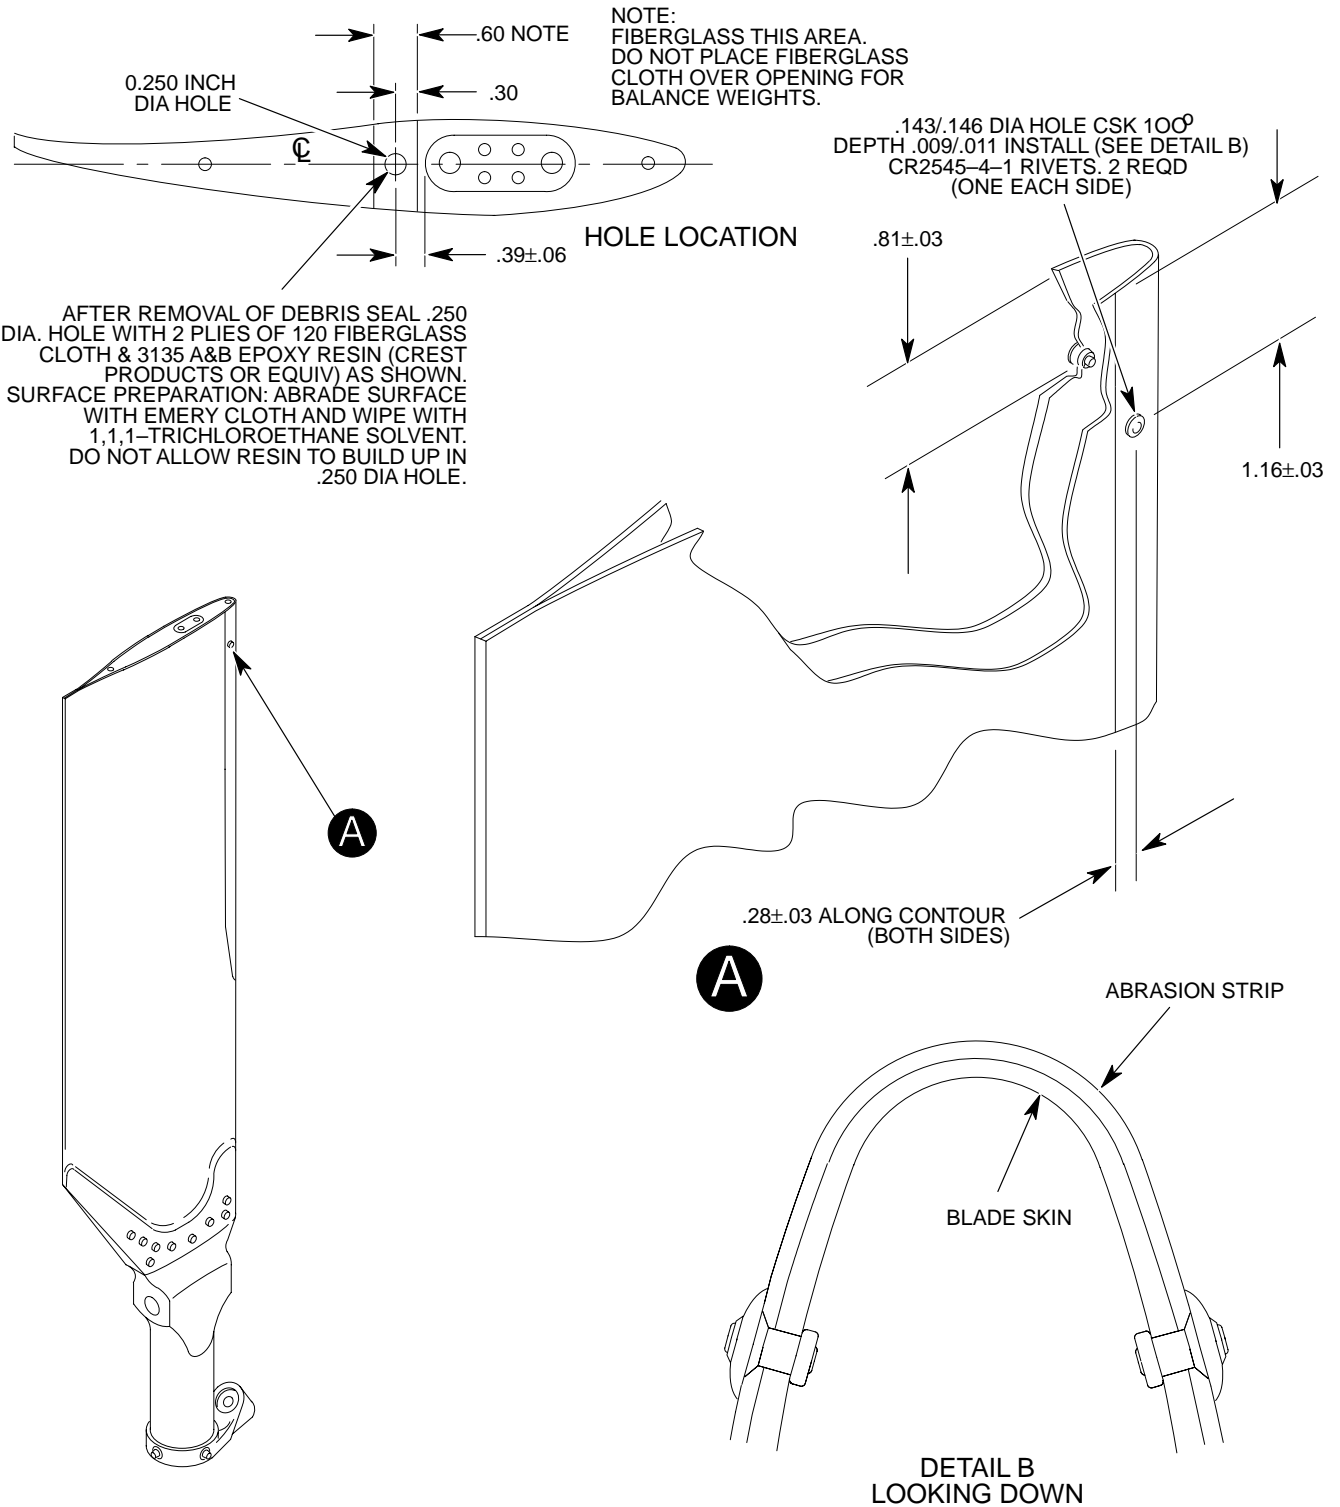

Figure 1. Addition of Rivets to Tail Rotor Abrasion Strip, FOD Removal from Blade Interior.
- c. Using a No. 27 Cobalt drill, drill holes (DIA. .143/.146) at the locations shown on Figure 1. (Light center punch prior to drilling is allowed.)
- e. Apply zinc chromate primer to holes and install CR2545-4-1 or CR3555-4-1 rivets in locations shown in Figure 1 while the zinc chromate primer is still wet.
- 1). Drill 0.250 inch diameter hole through tip-cap as shown in Figure 1.